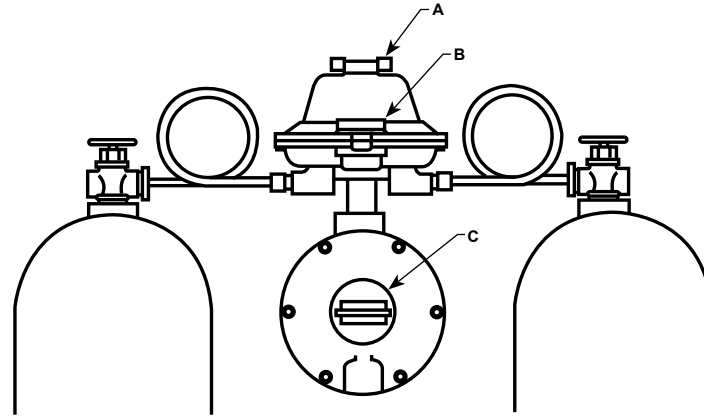

Figure 2. Typical Hook-up
4. Inform the user that the supply cylinder is not completely empty until the red warning flag is fully visible in the indicator window (B), figure 2.
Place one of the two cylinders in “Supply” by rotating the changeover knob (A), see figure 2, either way as far as it will go. The arrow will denote the “Supply” service side. Open both cylinder valves slowly.
to deliver 11-inches wc (0,03 mbar). If it becomes necessary to increase outlet pressure, remove the closing cap (C), figure 2, and turn the adjusting screw clockwise. Turn the adjusting screw counterclockwise to decrease the outlet pressure. A pressure gauge or water manometer is needed to determine the regulator’s outlet setting after adjustment. Always replace the closing cap after the adjustment is made.